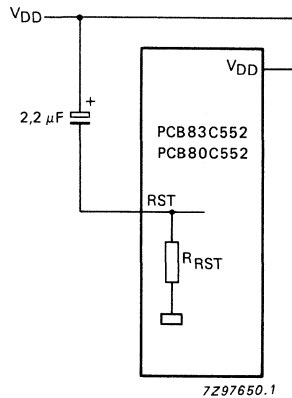

Fig. 17 Power-on reset.
N.B. It can be seen that the short reset pulse from Timer T3 cannot discharge the power-on reset capacitor (see Fig. 17). Consequently, when the watchdog timer is also used to reset external devices this capacitor arrangement should not be connected to the RST pin, and an extra circuit should be used to perform the power-on reset operation. It should be remembered that a Timer T3 overflow, if enabled, will force a reset condition to the PCB83C552 by an internal connection, whether the output RST is tied LOW or not.
**Power-on reset** (see Fig. 17)